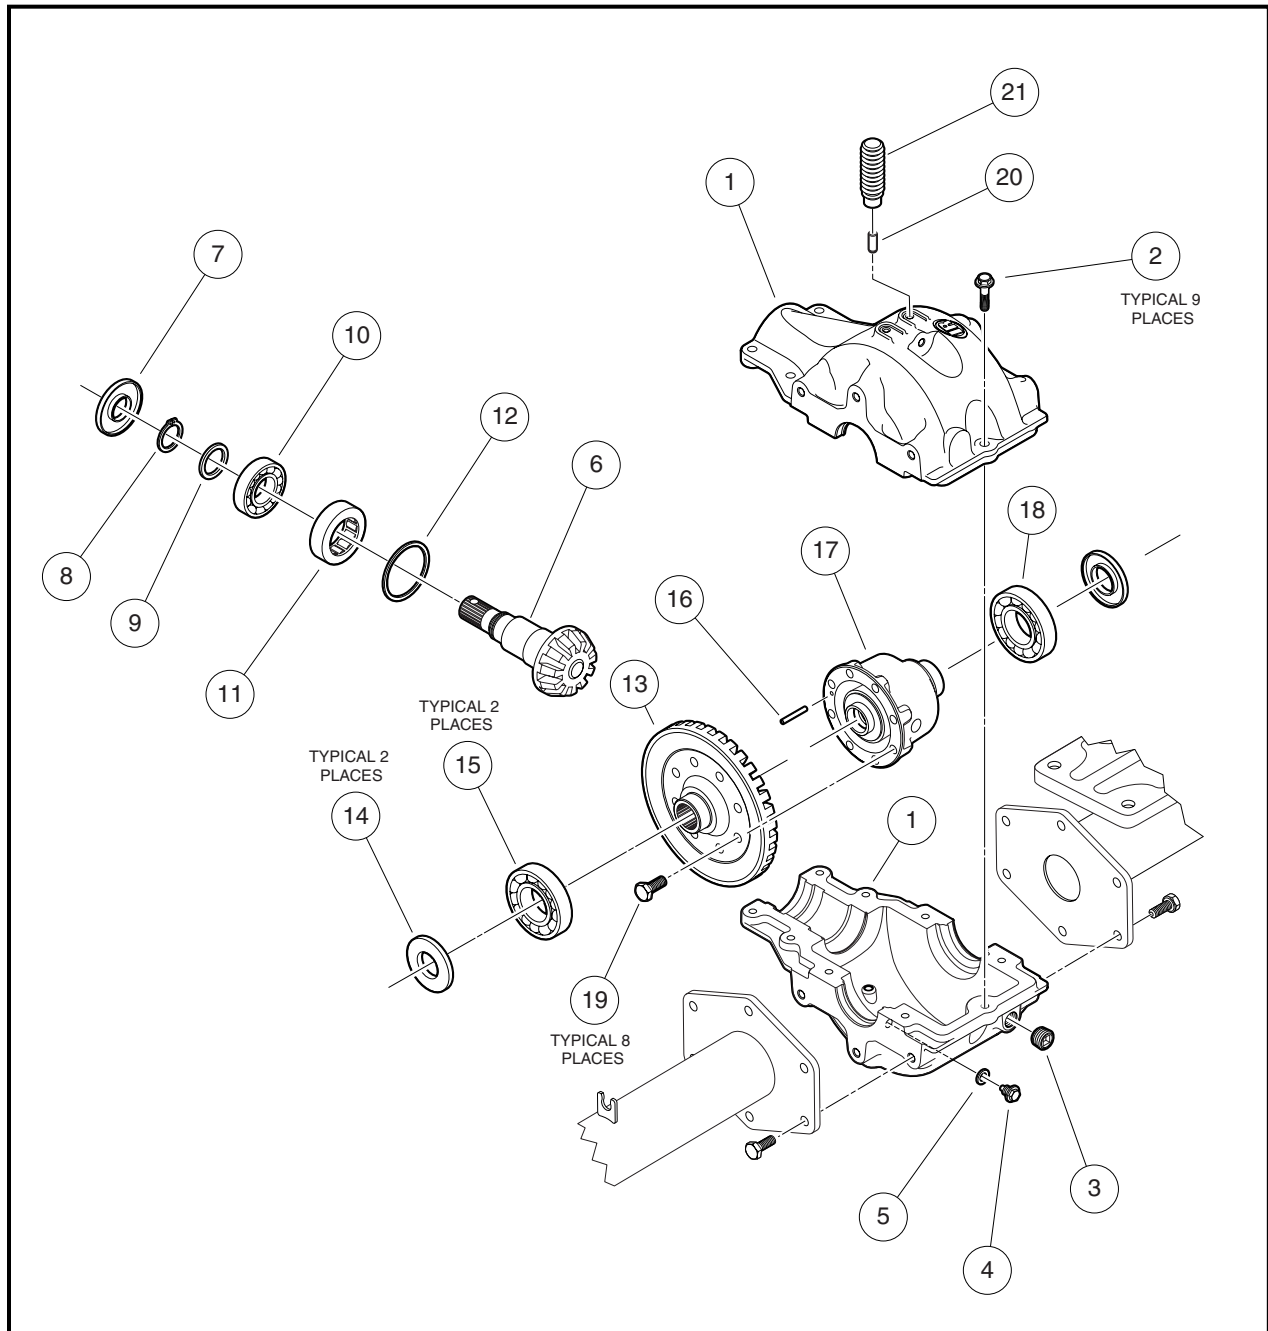
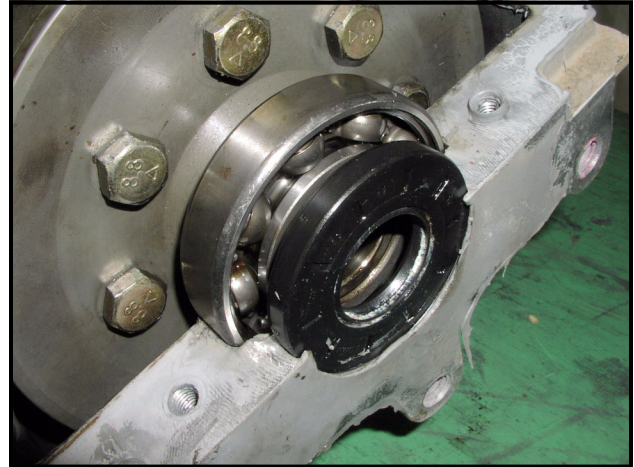

Figure 10-4 Differential Assembly
Figure 10-20 Driver Side Ring Gear Seal
1. Remove the bottom drain plug (4) and plug washer (5) and drain the lubrication oil from the differential housing (**Figure 10-4, Page 10-3**).
5. Remove the nine hex flanged-head bolts (2) from the housing (Figure 10-4, Page 10-3).
1. Remove the pinion shaft oil seal (7) (**Figure 10-4, Page 10-3**).
2. Remove the pinion gear and shaft (6) with bearings.
2. Slide the thin washer (12) down onto the pinion gear race (**Figure 10-4, Page 10-3**).
5. Slide the thin washer (9) down onto ball bearing race (**Figure 10-4, Page 10-3**).
1. Remove the two axle shaft oil seals (14) from the differential housing (**Figure 10-4, Page 10-3**).
2. Position the ring gear, bearings and clutch carrier assembly into the differential housing with the ring gear to the right, or driver side of the housing cavity (**Figure 10-20, Page 10-9**).
4. Install two new oil seals (14), one on each side of the ring gear and carrier assembly, and seat them in housing (**Figure 10-4, Page 10-3**). Also see **Figure 10-20, Page 10-9**.